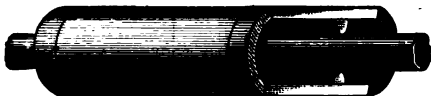

FIG. 114.—GILMOUR'S NON-CONDUCTING BOILER COVERING.
Q. In what does the "Unique" injector, shown in Fig. 114, differ from the Hancock inspirator shown in Fig. 113?